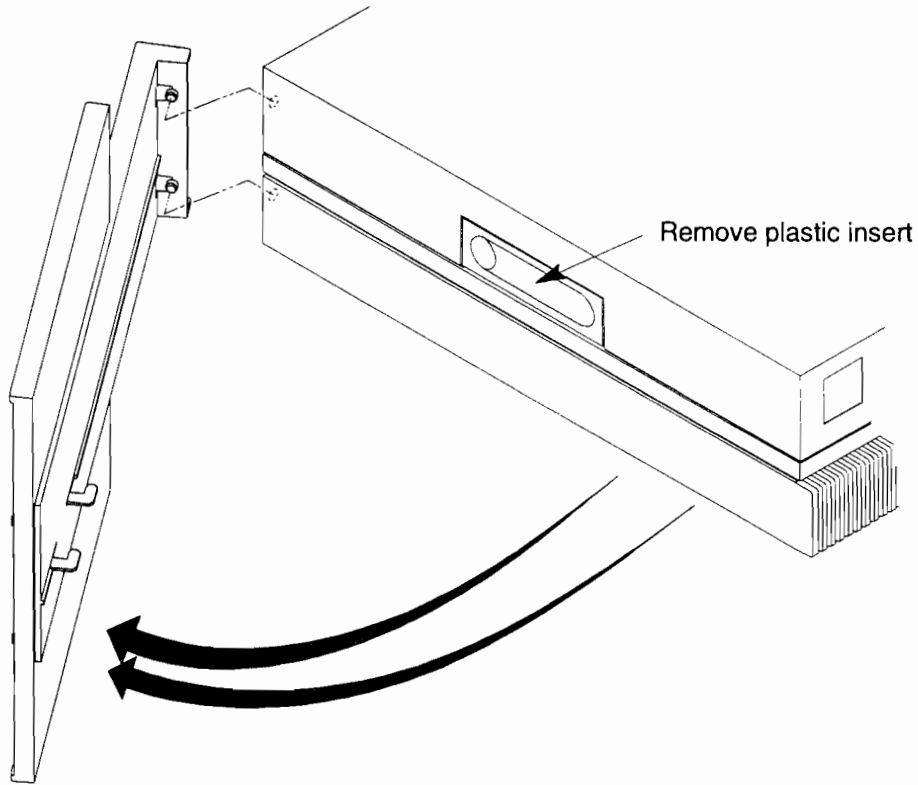

Figure B-3. Removing the Floor Stand
6. Swing the end of the floor stand away from the system unit and remove it from the system unit. See Figure B-3.
8. Remove the plastic insert from the handle as shown in Figure B-3.